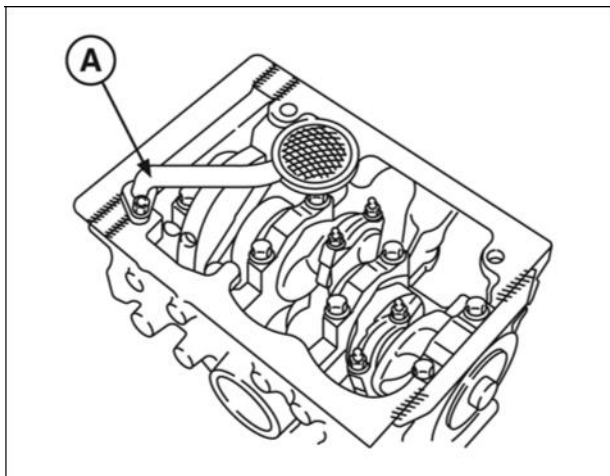

Figure 7
7. Remove oil pick-up tube (A, Figure 7) and strainer. Discard gasket.